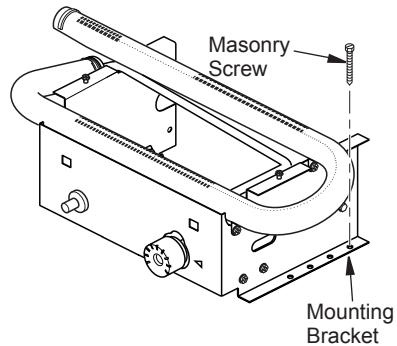

Figure 11 - Attaching Base Assembly to Fireplace Floor
7. Mark screw locations through holes in mounting brackets (see Figure 11). If installing in a brick-bottom fireplace, mark screw locations in mortar joint of bricks.
10. Attach base assembly to fireplace floor using two masonry screws (in hardware package) (see Figure 11).